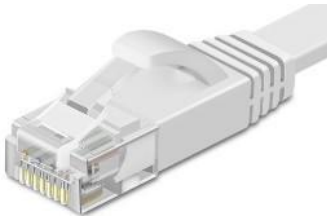

Fig. 25
1. The Titan comes with an ethernet cable(see Fig. 25).